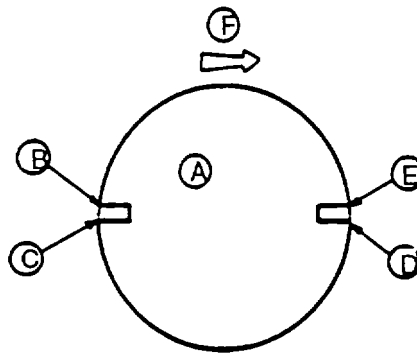

FIGURE 3-167. Staggered Piston Ring Gaps
- a. Ensure piston ring gaps are staggered as described in paragraph 3-48.1., and as shown on FIGURE 3-167.